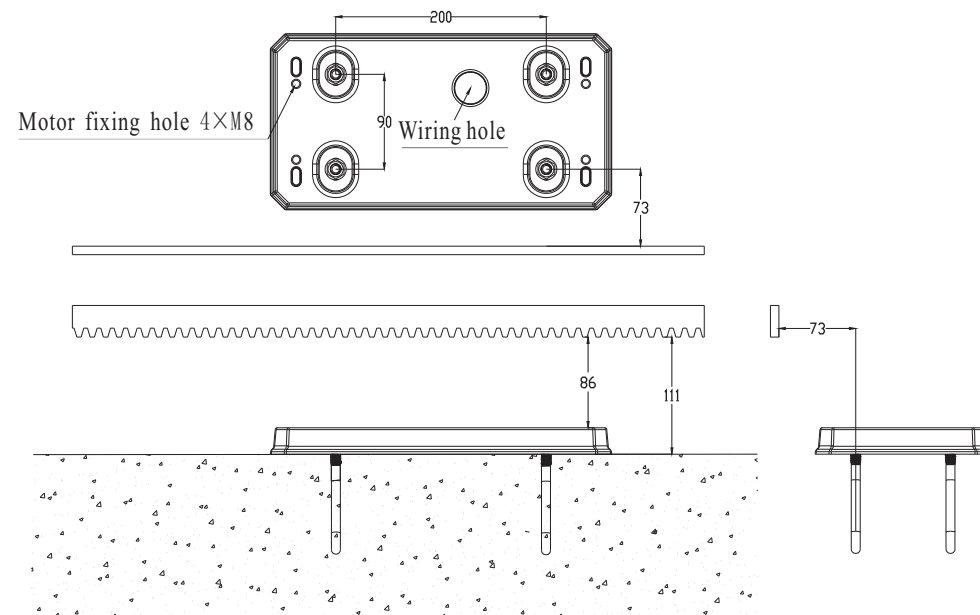

Fig. 2
5.1 Motor base and it's installation (Fig. 2)
1. Motor base installation: set the installation position of the base tray according to the size of the motor and the height of the installation position of the gear rack. Then Embed the bolts in advanced or use the expansion bolts to embed the base into the cement foundation (Fig. 2)